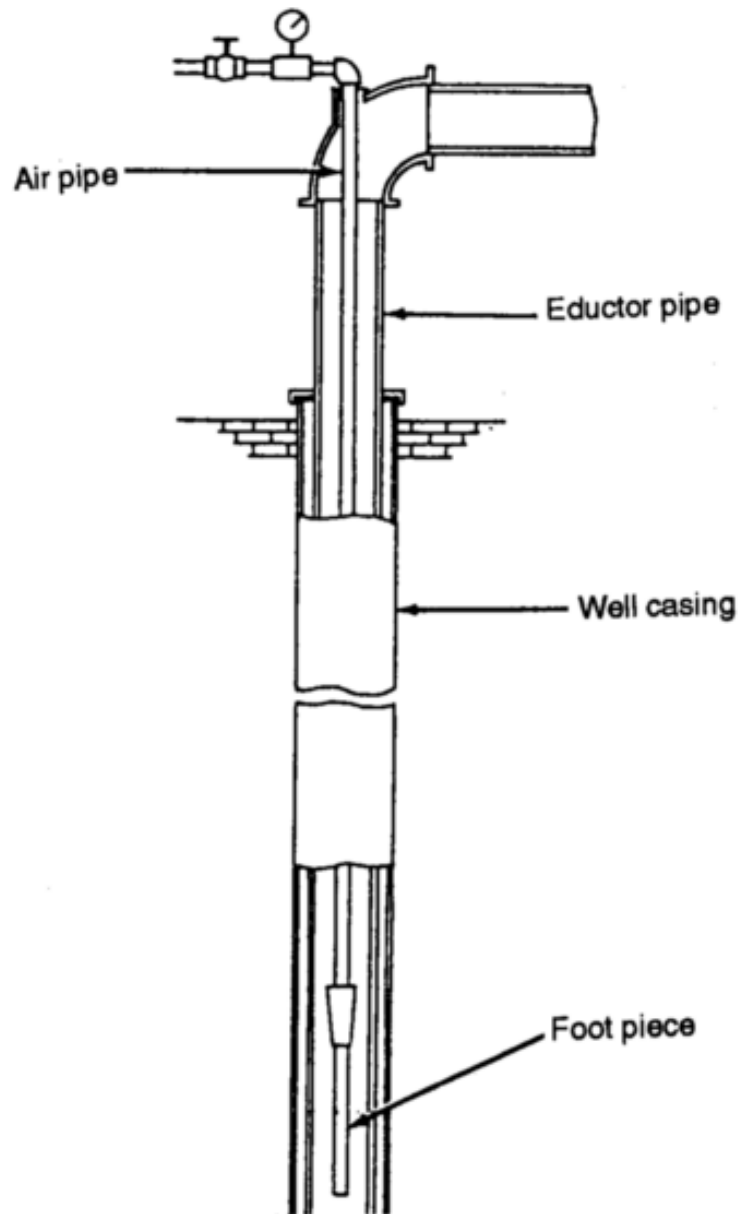

Figure 4-10. Air pipe in an eductor pipe
You should arrange an air lift with the air pipe inside the eductor pipe (Figure 4-10). You can use this arrangement for test pumping wells and for well development. You can use the well casing for the eductor pipe. However, to pump sand and mud from the bottom of a well during well development and completion, use a separate eductor pipe. This type of pump is also useful in wells that, because of faulty design, produce sand with the water. This condition will quickly create excessive wear on most pumps. By setting the eductor pipe to the bottom of the screen, sand will be removed before it fills the screen.
(6) Foot Piece. For best efficiency, the end of the air pipe should have a foot piece (Figure 4-10). This device breaks the air into small streams so that the bubbles formed will be as small as possible. You can make a foot piece by drilling numerous small holes in a short section of pipe.
(7) Discharge Pipe. You can approximate the discharge-pipe length from Table 4-3. Lower submergence than those shown result in a lower pumping efficiency. The planned pumping rate must not cause an excessive drop in the water level, reducing the submergence. The two chief losses in the discharge pipe are air slipping through the water and the water friction in the discharge line. As the velocity of discharge increases, slippage decreases and friction increases. Eductor intake loss occurs at the lower end of the pipe due to friction and to the energy required to accelerate the flow of water into the pipe.